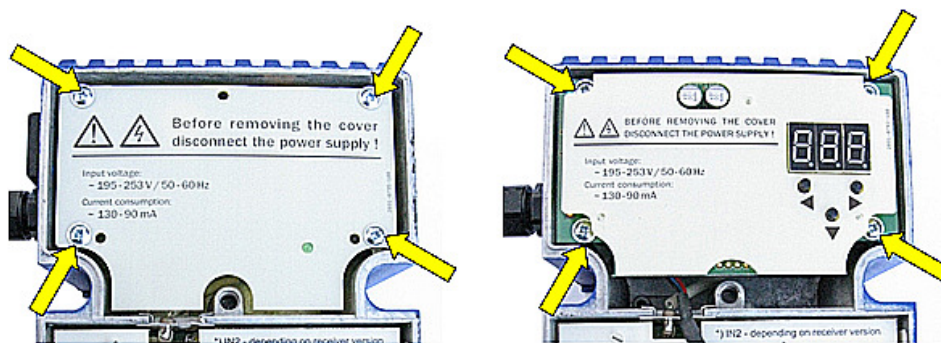

Fig. 8.10. Replacing a fuse in the MOB-729 - step 1.
- remove the four screws attaching the power unit enclosure or the M-729 remote monitoring module, depending on factory fitted options - see fig. 8.10,
- Fig. 8.10. Replacing a fuse in the MOB-729 - step 1.